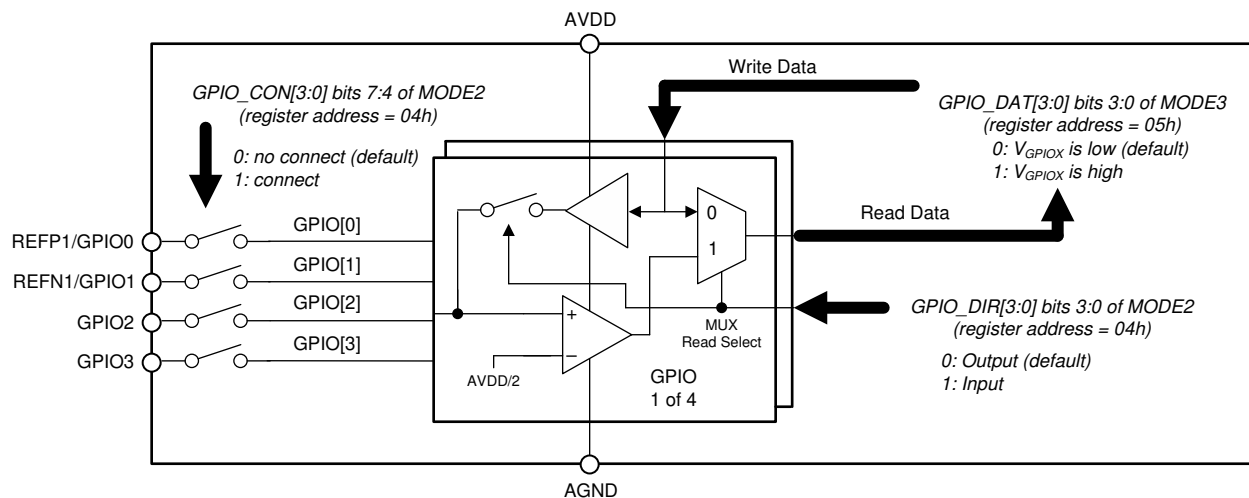

Figure 64. GPIO Block Diagram
The ADC provides four GPIO pins (GPIO0 through GPIO4). The GPIO are digital inputs and outputs with logic values that are read and written by the GPIO_DAT bits of the **MODE3** register. Two GPIOs are available on dedicated pins and two GPIOs are multiplexed functions with an external reference (REFP1 and REFN1). The GPIO input and output levels are referred to AVDD and AGND. As Figure 64 shows, the input threshold value is $AVDD / 2$ (typical). The GPIO_CON[3:0] bits set the GPIO connection to the designated pin (1 = connected). The GPIO_DIR bits program the direction of the GPIO as an input (1) or output (0). The GPIO_DAT[3:0] bits are the data values for the GPIO. If a GPIO pin is programmed as an output, the value read is the register data previously written.